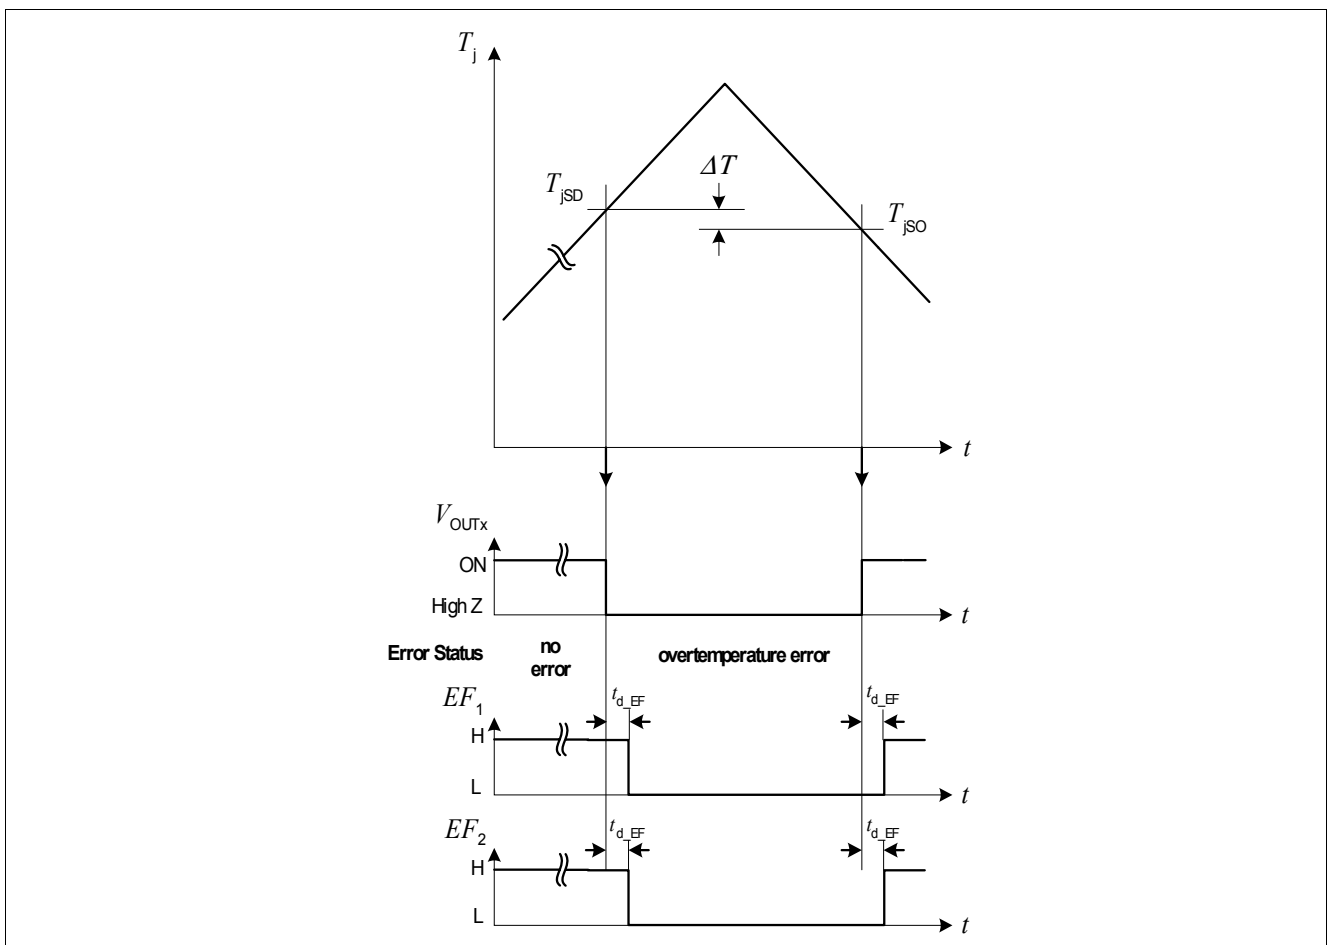

Figure 8 Overtemperature signalling
- b) **Over Temperature:** At a junction temperature higher than the thermal shutdown temperature T_{jSD} (typ. 175°C) the device enters thermal shutdown which turns-Off all four output stages simultaneously and the corresponding Error Flags are set with a delay. After cooling down to the thermal switch-on junction temp T_{jSO} the device will auto restart. A thermal toggle behavior can be observed (the Error Flags and output stages will be modulated by the thermal time constants; Figure 8).
Temperature sensors are integrated in the power stages. Each half bridge (HS+LS) is equipped with one temperature sensor. The temperature monitoring circuit compares the measured temperature to the shutdown thresholds. If one or more temperature sensors reach the shutdown temperature T_{jSD} , the overtemperature Error Flag is set to LOW. This Error Flag is not latched (i.e. if the temperature falls below the switch on threshold T_{jSO} , the Error Flag is automatically reset to HIGH again). This is shown in Figure 8 below.